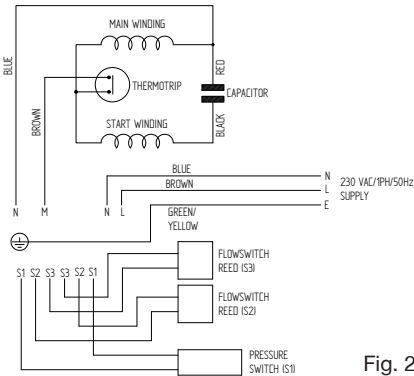

Fig. 21 Twin
- Remove four screws and carefully remove terminal box lid (item 23).
- Note the cable routing within the terminal box (Figs. 21 & 22).
- Connect the two reed switch wires to the PCB (Figs. 21 & 22)